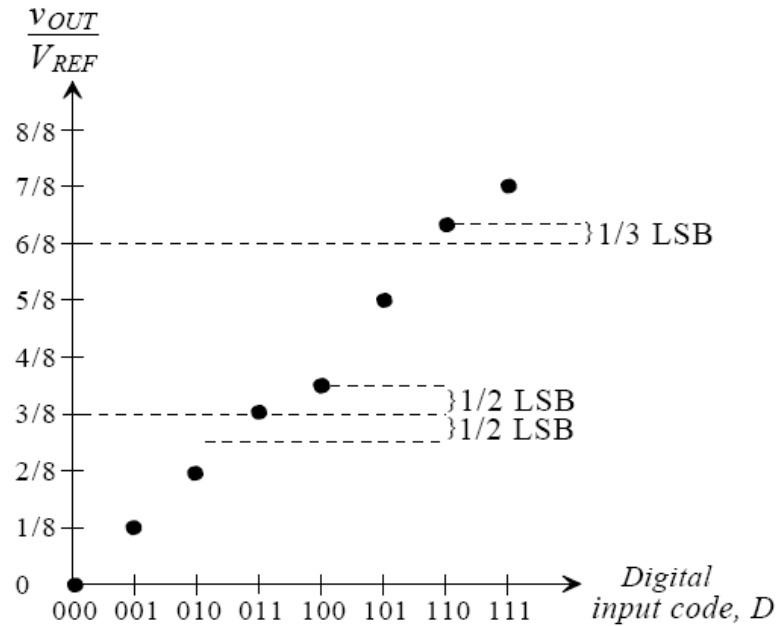

Figure 28.33 Transfer curves for Problem 28.9.
28.9 Determine the INL and DNL for a DAC that has a transfer curve shown in Fig. 28.33.